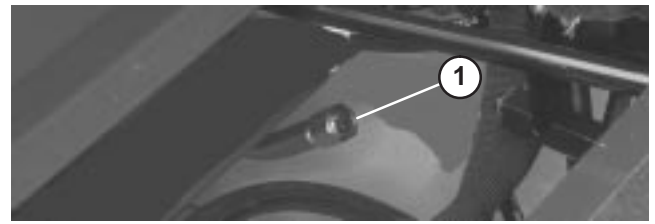

Figure 17
3. Screw dipstick filler cap finger-tight onto filler neck (Fig. 17). It is not necessary to tighten cap with a wrench.